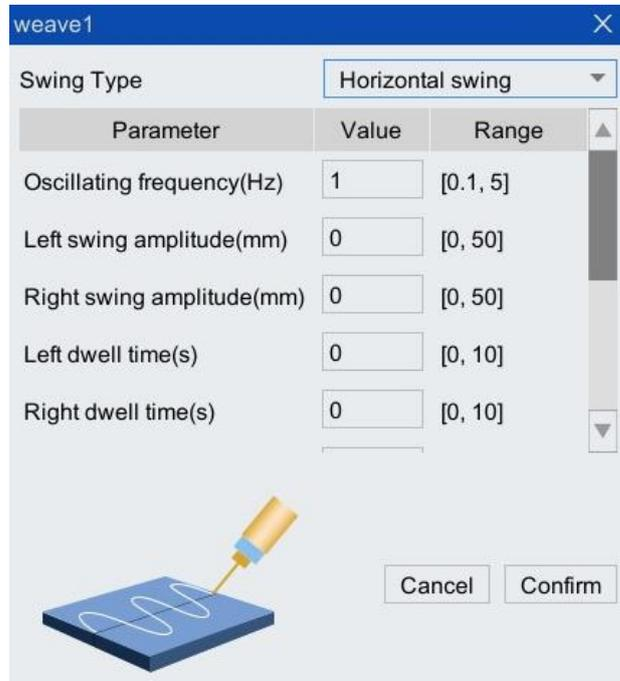

Figure 5-28 "Weave" variable configuration interface
Step2. Click the <...> button behind the variable weave to open the "weave" variable configuration interface as shown in Figure 5-28. Modify the specific parameter values according to actual needs. After the modification is completed, click the <Yes> button.